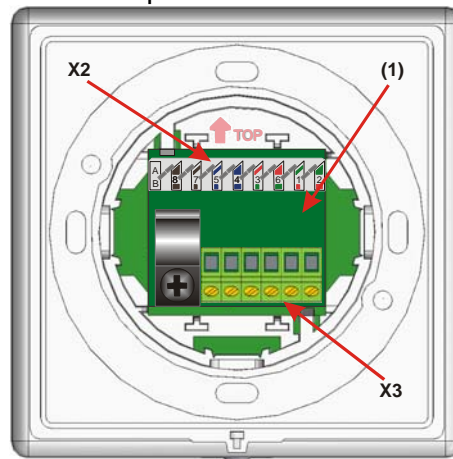

Fig. 3 Backside view with the fitted connection board (1)
- Snap in the connection board from the back side into the lower casing (see Fig. 3)